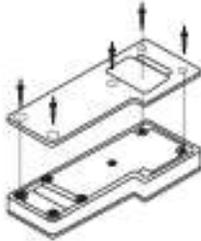

Figure 2 Battery Cover
1. Unscrew the five screws located on back of unit and remove cover (see Figure 2).